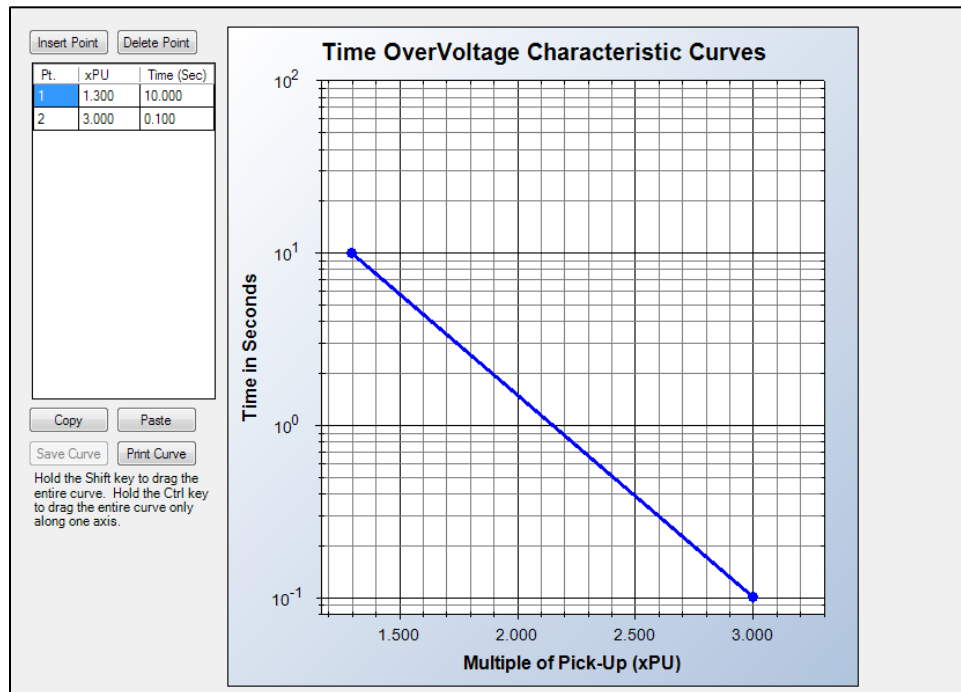

Figure 7-1. Time OverVoltage Characteristic Curves
*BESTCOMSPPlus* is used to set the 27P element Table Curves (T1, T2, T3, and T4). Using the Settings Explorer within *BESTCOMSPPlus*, open the Protection, Voltage, Overvoltage, Table Curves, Table Curve (1, 2, 3, or 4) tree branch and select the table curve to be modified. Refer to Figure 7-1. A minimum of 2 and maximum of 40 points can be entered for any one T curve. When you are satisfied with the values chosen, select Save Curve. Use the Settings Explorer to browse to the 59P-x element you wish to program and use the drop-down menu under Curve to select T1, T2, T3, or T4.